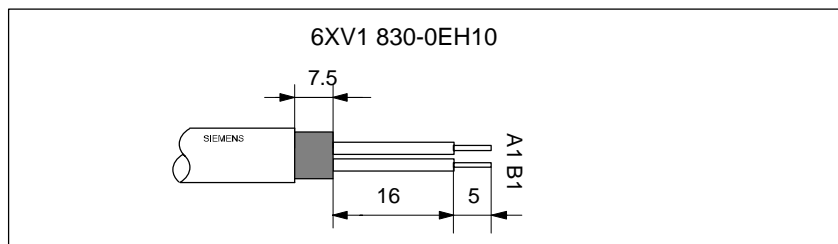

Figure 4-22 Cable Stripped for Connection to Bus Connector (6ES7 972-0B.40 ...)
1. Strip the LAN cable as shown in Figure 4-22 using the FastConnect stripping tool (sizes and lengths are shown in the table on the rear of the tool).
3. Insert the green and red cores in the screw terminal as shown in Figure 4-22.